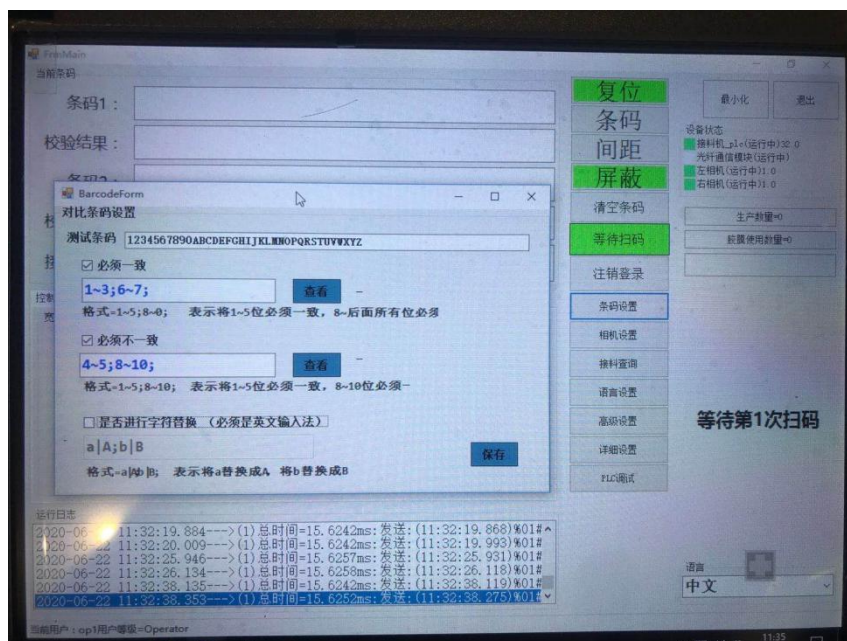

Figure 38
6) Barcode setting interface: As shown in Figure 38